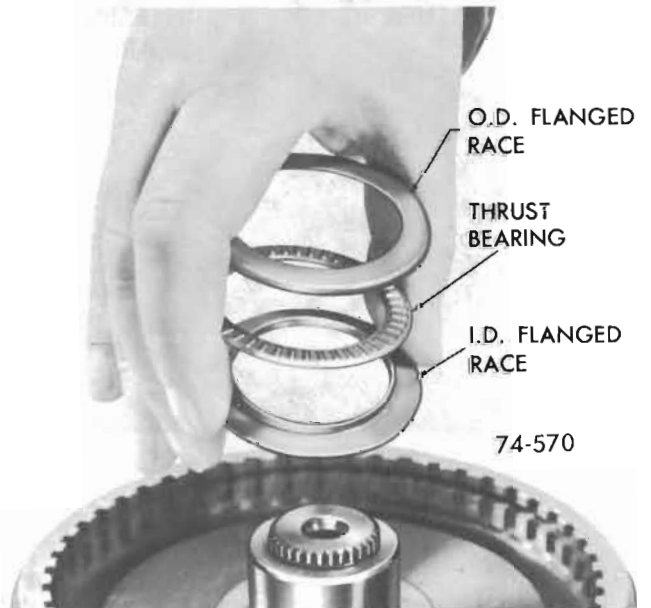

Figure 76-113
11. Remove output shaft to rear internal gear thrust bearing and two (2) races. See Figure 76-113.